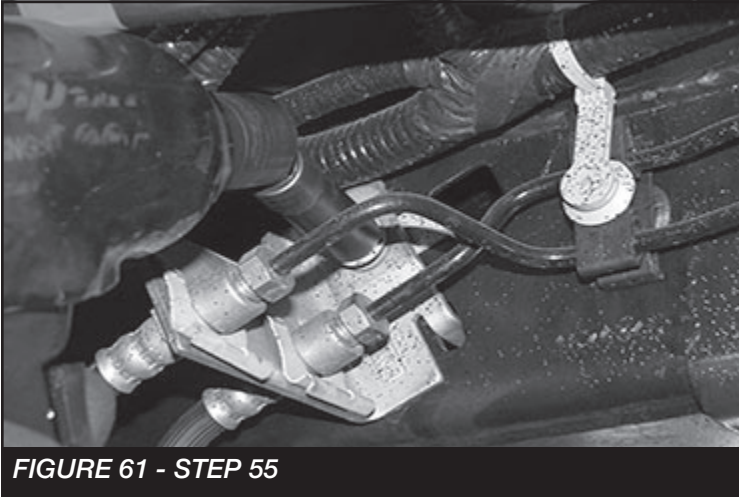

FIGURE 61 - STEP 55
55. Locate the factory brake line mount on the driver side of the frame. Locate the supplied brake line bracket (FT70033) and attach the bracket between the factory frame mount and the factory brake line using the factory and supplied 5/16"-18 X 1" bolts and hardware. **SEE FIGURE 61**